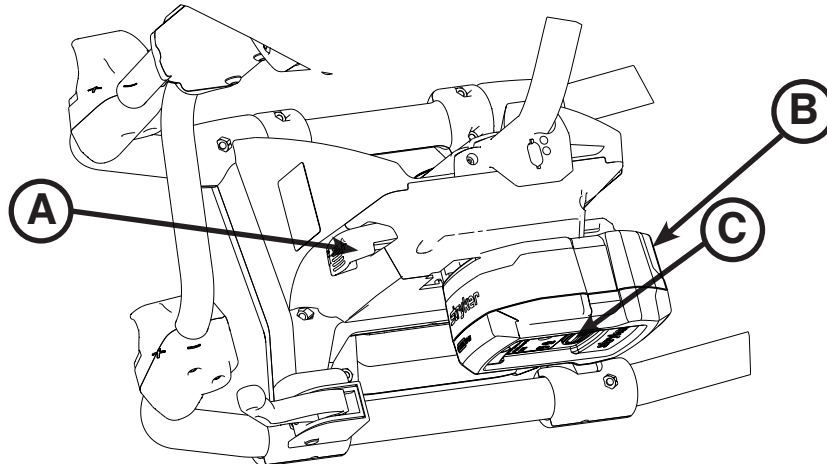

Figure 27: SMRT™ Pak Removal and Replacement
1. Press the red one hand release button (C) or press the battery release button (A) to release the **SMRT™** Pak (B) from the cot as shown in Figure 27.